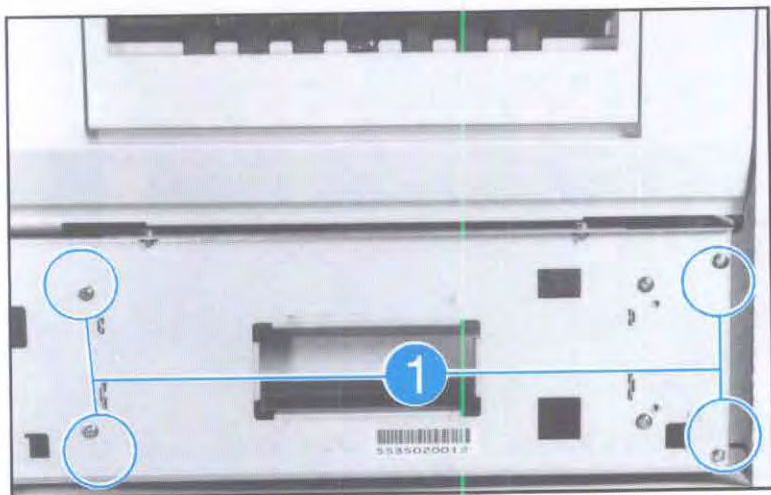

Figure 6-47. Duplex Unit
2. Remove the (4) screws that attach each corner of the Duplex Unit to the printer frame (see Figure 6-47).